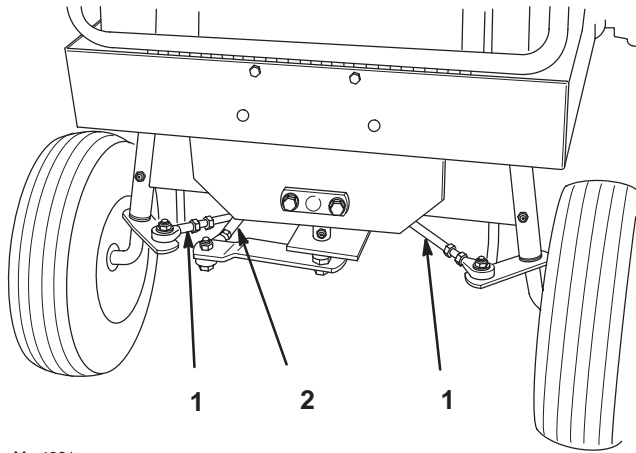

Figure 33
2. Loosen the jam nuts and rotate the tie rod to adjust the clearance (Fig. 33).
3. Turn the steering wheel full left to achieve a full left turn (Fig. 33).
5. Loosen the jam nuts and rotate the steering rod to adjust the clearance (Fig. 33).